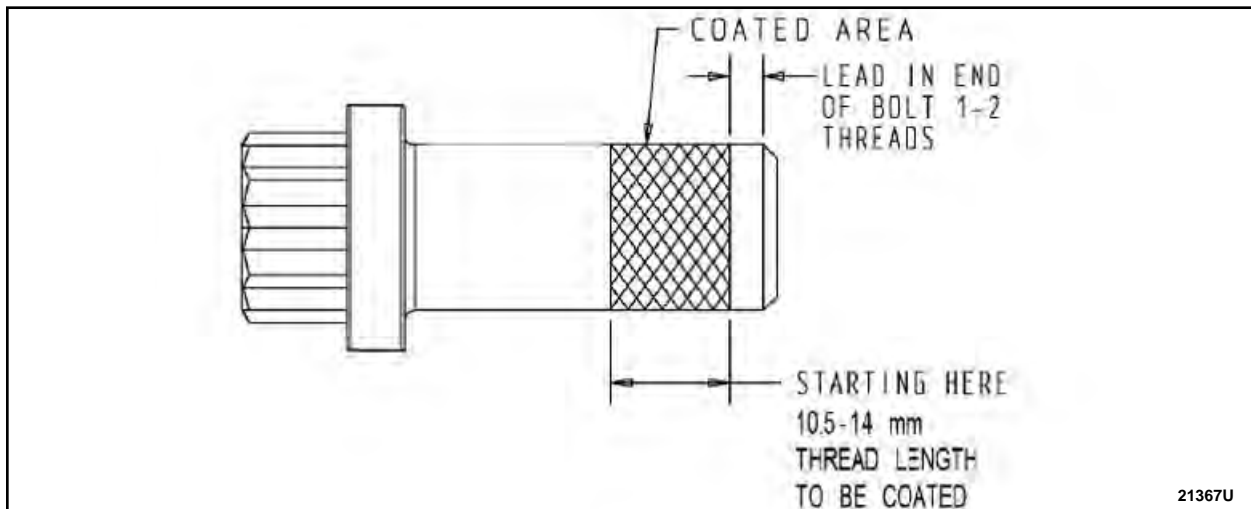

FIGURE 16
21. Inspect the original driveshaft flange to pinion flange bolts for rust in the threads and replace if rusted or damaged. Clean threads of the original driveshaft flange to pinion flange bolts with a wire brush and coat the threads with LOCTITE 243 Blue Medium Strength Threadlocker or equivalent. See Figure 16.